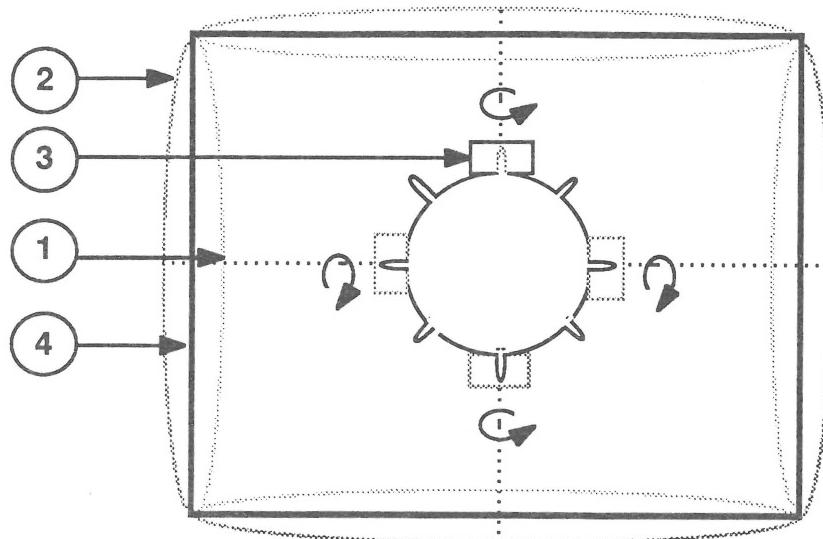
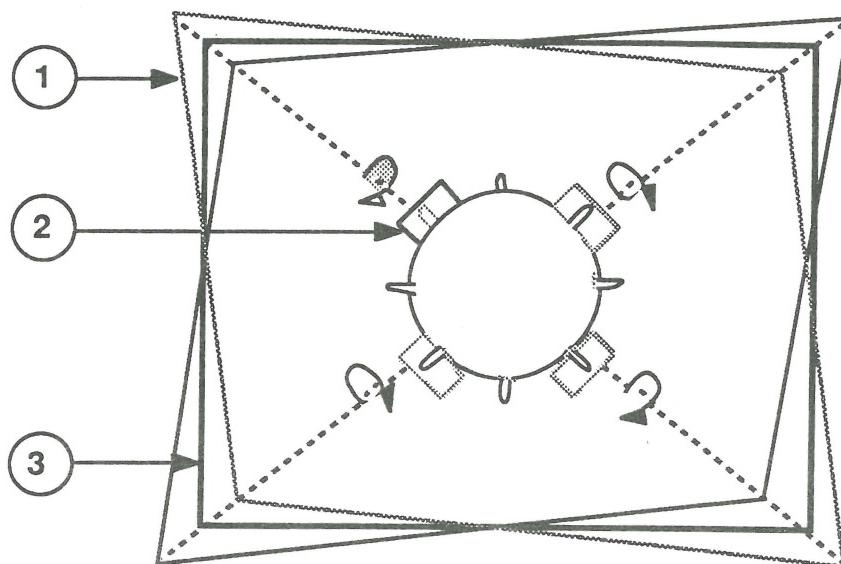

FIGURE 6
FIGURE 7
There are two different geometric distortions that can be seen on the screen. One is called pincushioning and barreling (see Figure 6, #1 and #2). The other is the trapezoidal effect (see Figure 7, #1 on the next page). Both are adjusted for with the rotary magnets; however, each adjustment is done separately.
If the image shows either distortion shown in Figure 6, #1 or #2, correct it by doing the following:
1. If using the Apple II Peripherals Diskette, select "Test #1" (Dot Pattern) from the menu. If using the ROM card, select Video Pattern (V).
2. Push a magnet on the yoke mounting pin as shown in Figure 6, #3. A magnet should be placed only on the pin that corresponds to the affected area.
3. Rotate the magnet to obtain the desired raster (see Figure 6, #4).
Figure 7, #1 shows the trapezoidal effect. Look at your screen and see if any of the corners exhibit the trapezoidal effect. If any do, then perform the following adjustment:
2. Push a magnet onto the yoke mounting pin as shown in Figure 7, #2. The magnet should be placed only on the pin that corresponds to the affected area.